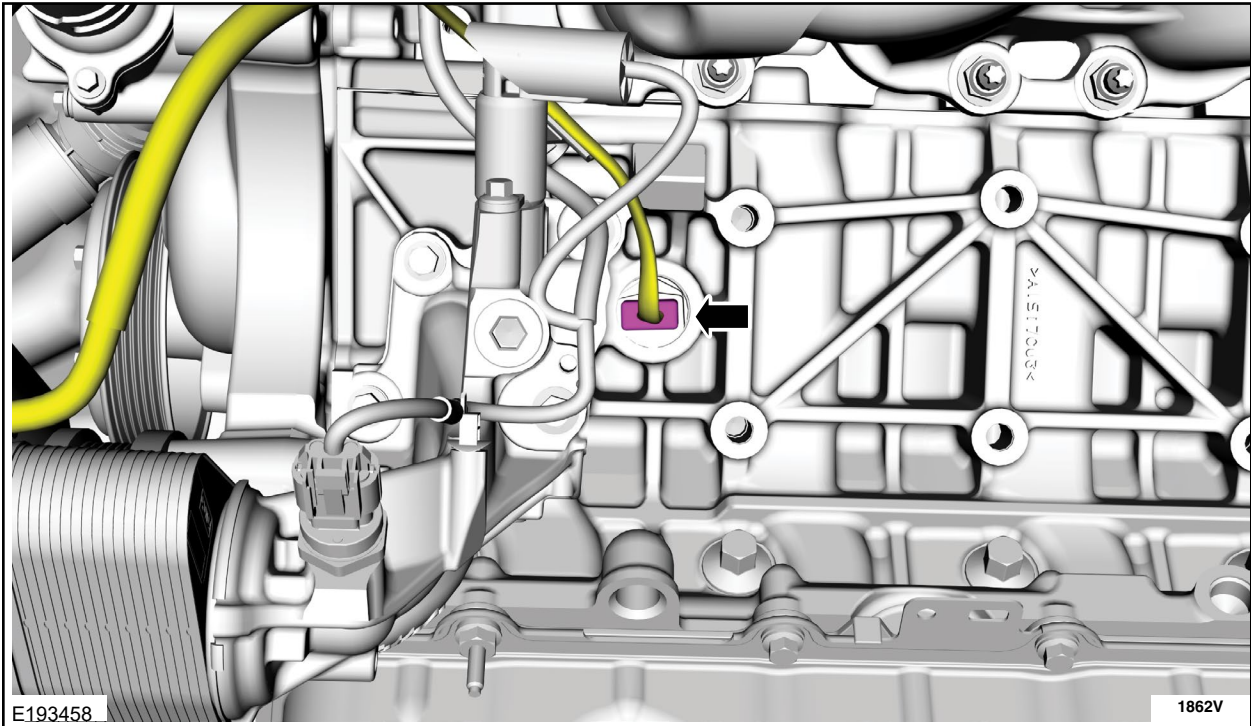

FIGURE 13
2. Disconnect the block heater electrical connector. See Figure 13.
7. Connect the new wire assembly to the block heater element. See Figure 13.